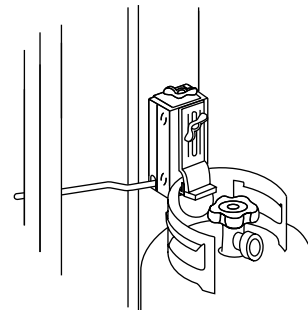

Figure 5
- b) Loosen the tank lock wing nut. Swing the tank lock down. Tighten the wing nut. Figure 5.